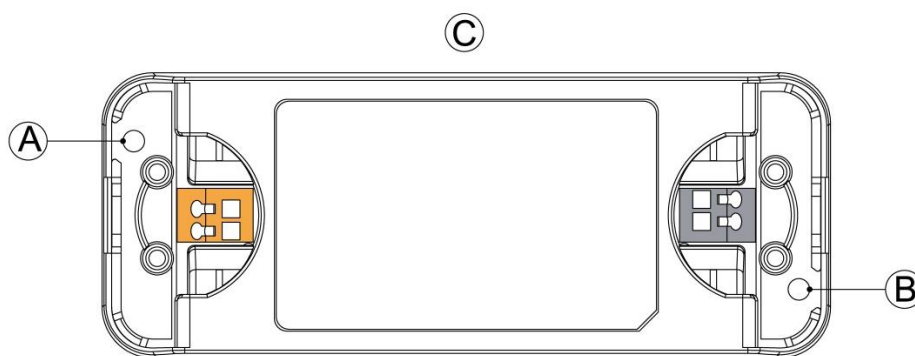

Fig. 1 Mounting Hole Locations
①, ②	Mounting holes for the LED driver (device). There are 1 mounting holes at either end of the device (locations ① and ② in Fig.1). The device shall be mounted using 1 mounting hole on both sides. Mounting shall be done using M3 screws with minimum length of 4mm. If customer's end system or panel where the device is mounted does not have screw threads, please use suitable metal screw and nut to secure the device.
③	Surface ③ belongs to customer's end product or panel where the device is mounted. The device should be mounted on a sturdy heat conducting surface with minimum of 2 mounting holes, as detailed above.